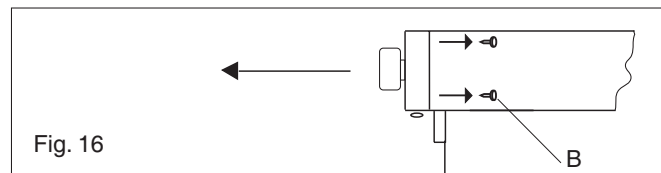

Fig. 16
- To disassemble the control panel, unscrew the 4 internal screws (B) fixing the control panel to the oven face ( fig 16 ).